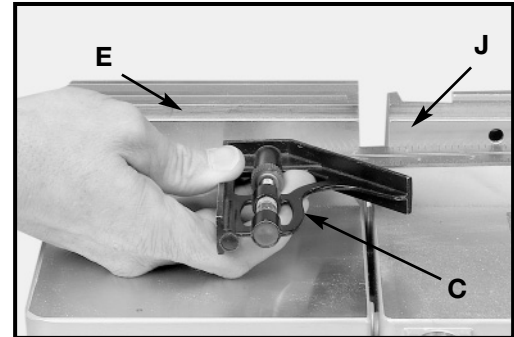

Fig. 7E
- Use a straight edge (C) Fig. 7E, to align the fence slide support (E) with saw fence (J), and tighten the two screws.